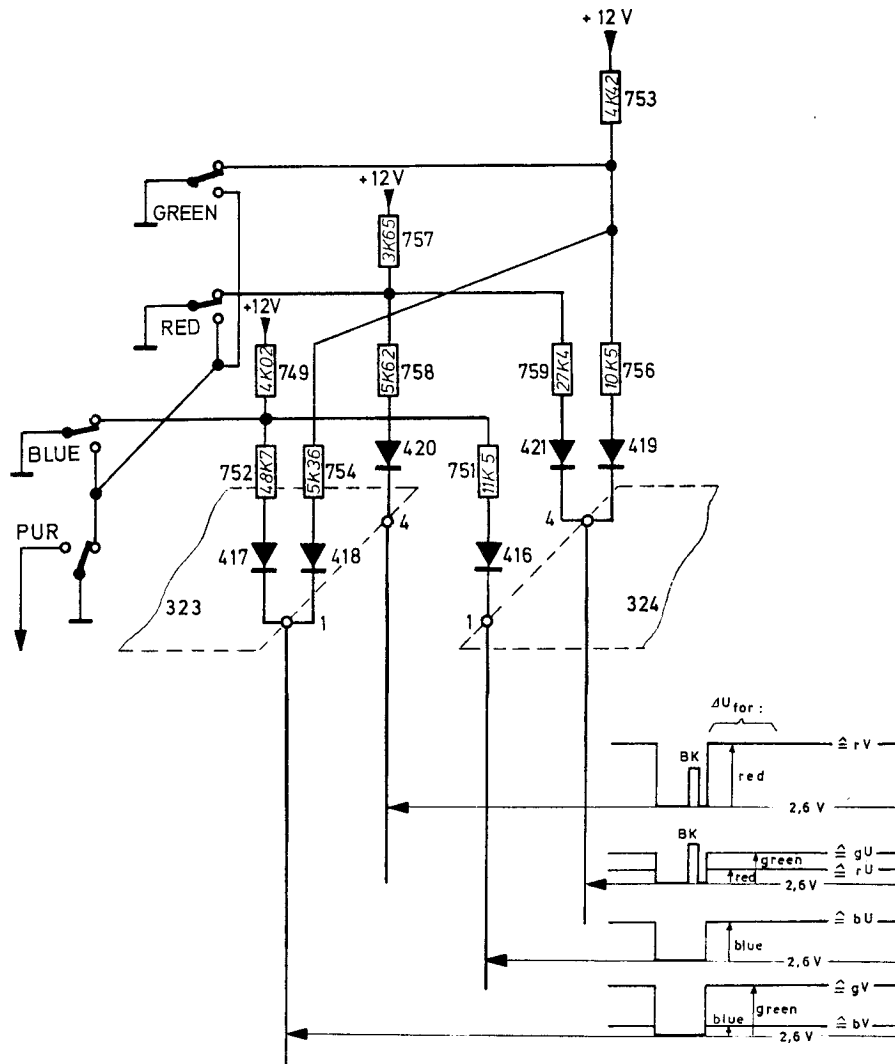

Fig. 19 Matrix of the monochrome pattern red, green and blue
2.2.8.3. Monochrome pattern (purity), fig. 19